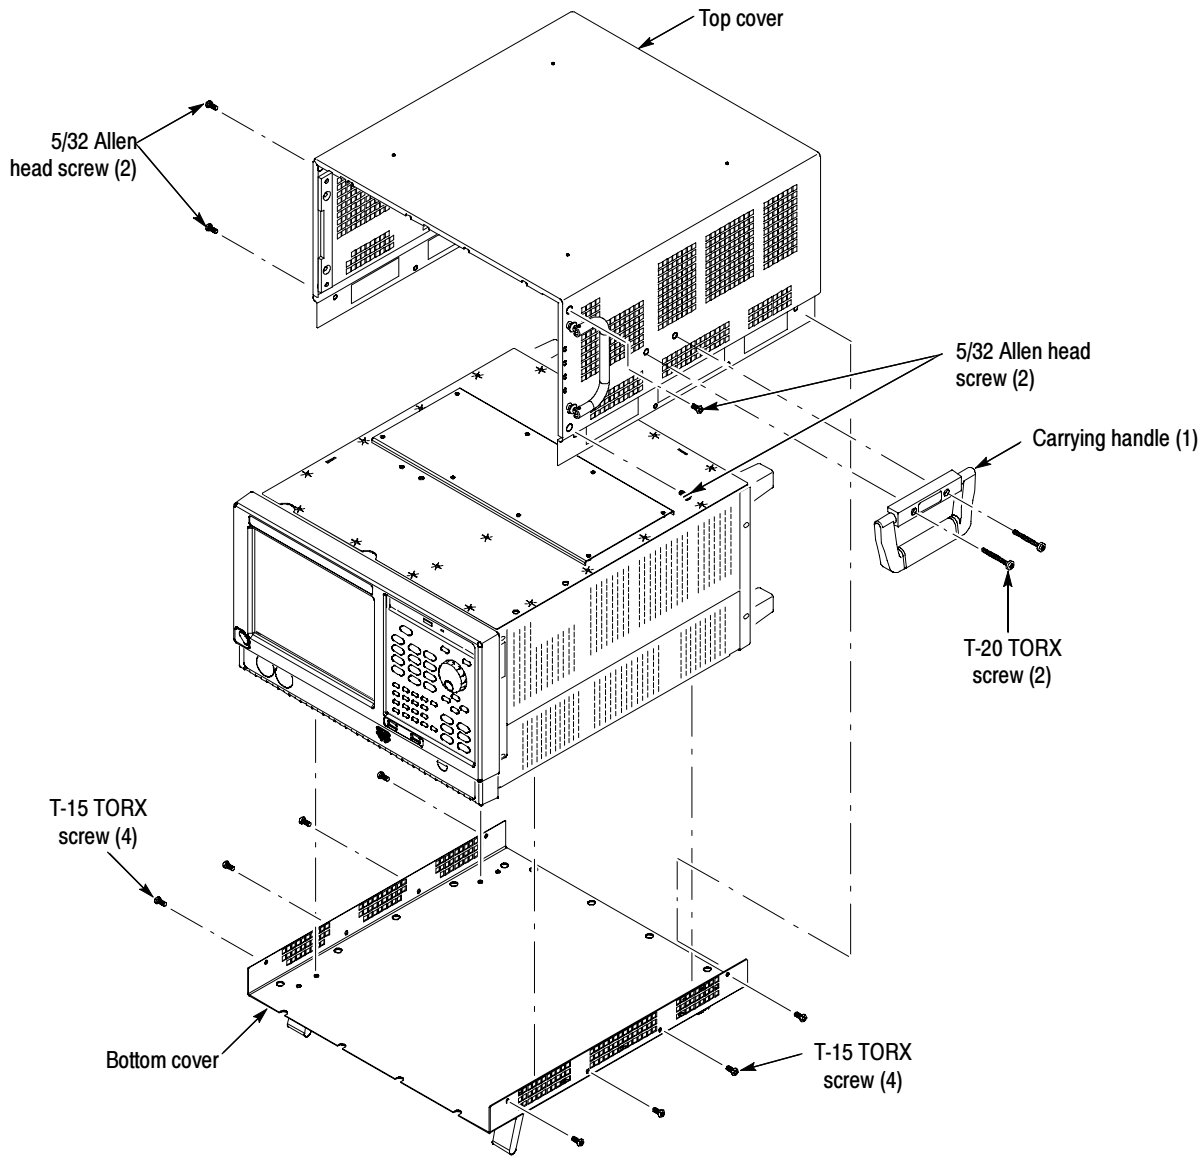

Figure 1: Remove cosmetic covers
3. Remove the two T-15 screws that secure the plastic carrying handle to the side of the instrument (it is not necessary to remove the black metal handles). See Figure 1.